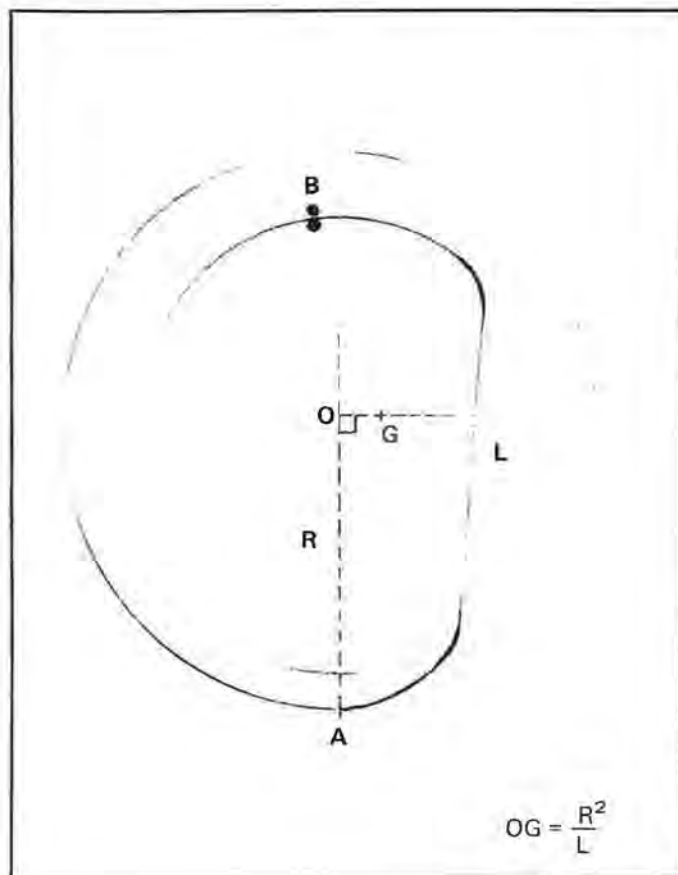

Figure 1. The conditions for a theoretically correct overcoil.
2. The center of gravity of the overcoil must lie on a line which is perpendicular to the radial line passing through the point of departure (the starting point of the overcoil). See Figure 1.